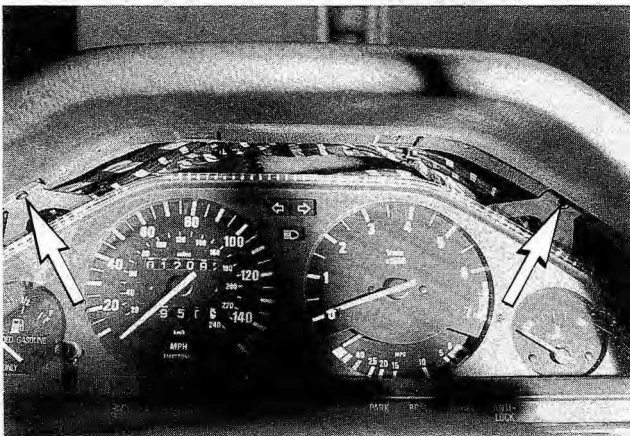

Fig. 4-4. Instrument cluster retaining screws (arrows) to be removed.
6. Remove the two instrument cluster retaining screws indicated in Fig. 4-4, then pull the cluster out slightly. Disconnect the electrical connectors from the back of the cluster and remove the cluster.